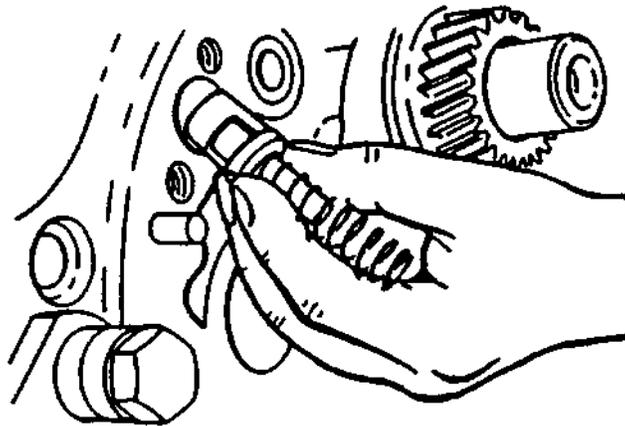

FIGURE 3-57. Oil Bypass Valve Installation
- c. Remove oil bypass valve and spring, refer to FIGURE 3-57.
- a. Install valve and spring in bore of engine block, refer to FIGURE 3-57.